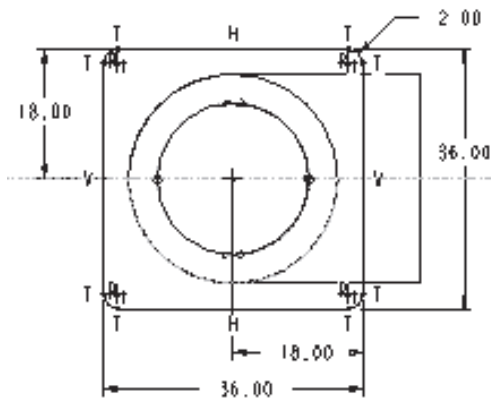

Figure 7-39 Sketch with dimensions and constraints
5. Draw the sketch of the extrude feature and apply constraints and dimensions as shown in Figure 7-39.